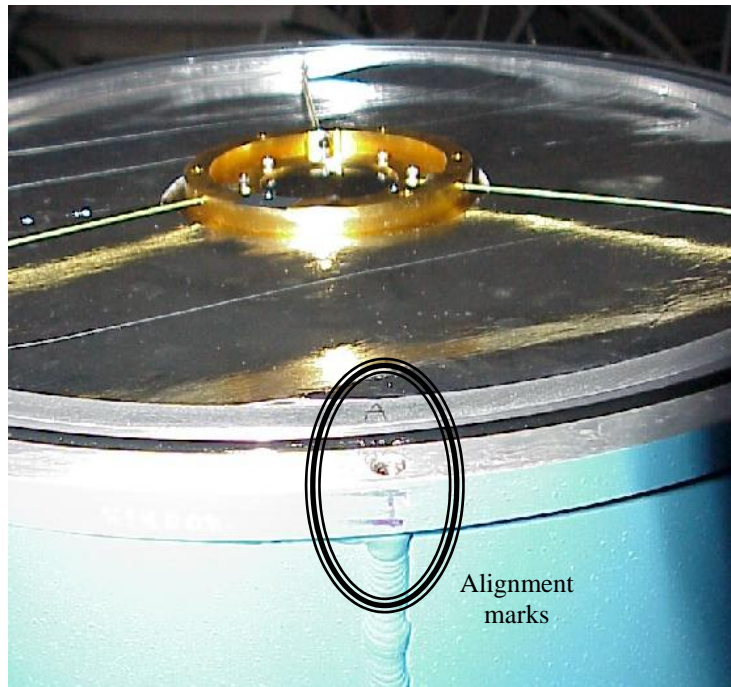

Figure 3. Alignment of centering fixture ('A') and vacuum shell (vertical weld).
- 5. Install centering fixture.** This consists of two concentric rings connected with Kevlar cords. Align as in Figure 3. The outer ring is held in place with 3 set screws; rotate ring to minimize Kevlar length. The inner ring is held in place with 5 or 6 4-40 screws. (One hole might be taped over.) Tighten hex cap screws to remove any Kevlar slack, but keep resonant frequency below audible range.